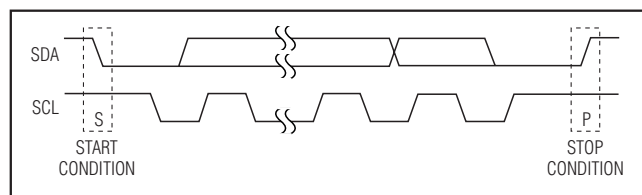

Figure 3. Start and Stop Conditions
Each transmission consists of a START condition (Figure 3) sent by a master, followed by the MAX7316 7-bit slave address plus R/ $\bar{W}$  bit, a register address byte, one or more data bytes, and finally a STOP condition (Figure 3).
Both SCL and SDA remain high when the interface is not busy. A master signals the beginning of a transmission with a START (S) condition by transitioning SDA from high to low while SCL is high. When the master has finished communicating with the slave, it issues a STOP (P) condition by transitioning SDA from low to high while SCL is high. The bus is then free for another transmission (Figure 3).